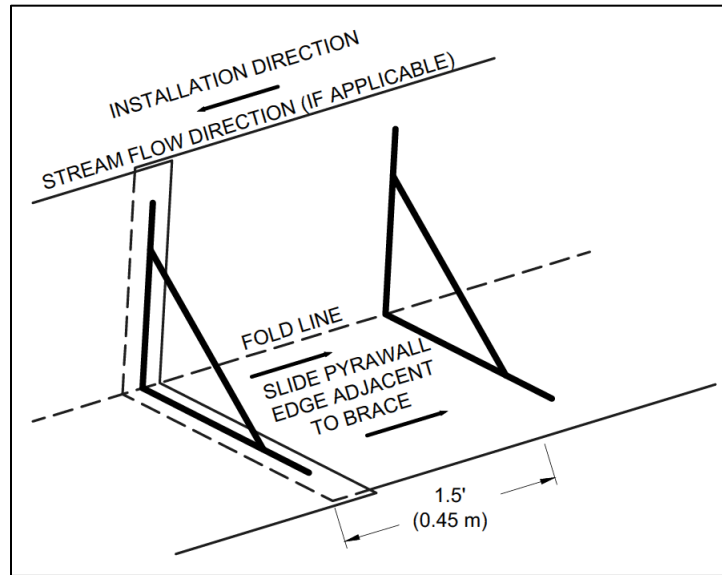

Figure 5 - PYRAWALL Overlap
9. To splice onto the end of a HPTRM roll (previous roll), install a brace at 1.5 ft. (0.45 m) from the end of the roll (Figure 5). For the new roll to be added, insert a brace close to the roll end, then slide the new roll end into the previous roll end until the new roll end abuts against the final brace of the previous roll. After placing and compacting backfill, fold the top wrap back over the fill and stretch taut to provide an overlap of 1.5 ft. (0.45 m).